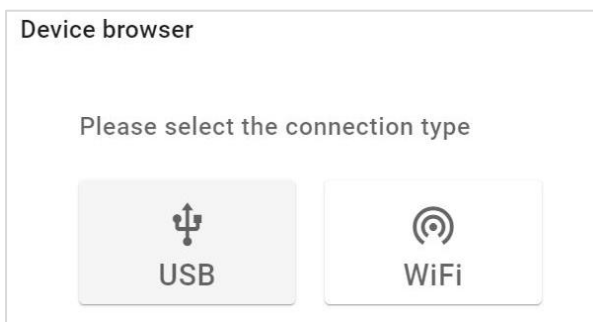

Figure 58
- Press  and select **USB** (Figure 58).